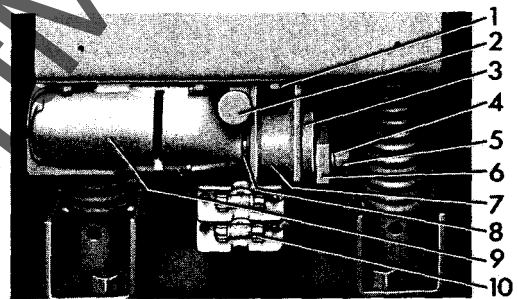

Figure 15. (8034471) Driving Elements
Refer to Figure 15. On breakers with a "C" or "K" suffix, a set of protecting fuses (10) are mounted the front of the breaker. These fuses are the primary protective devices for the closing control circuit on those breakers that are used in metal-clad units designed for solenoid operated breakers.